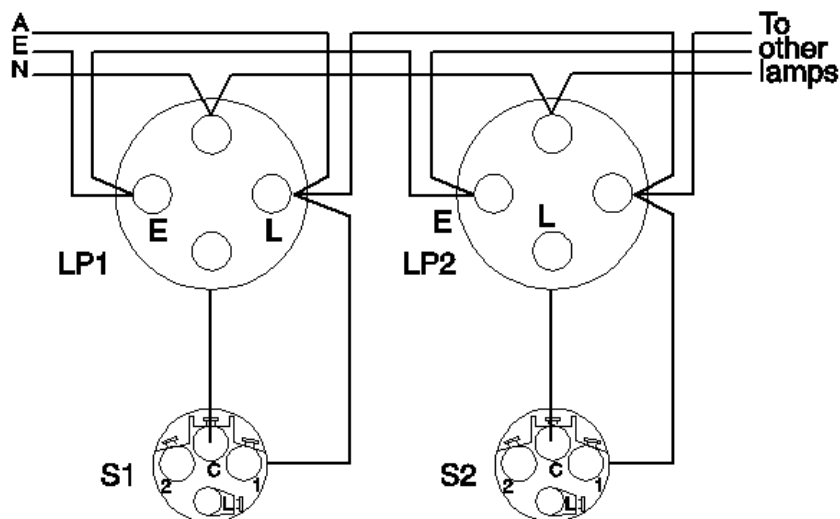

Fig. PF-4-1-32– Simple Wiring Diagram
- **Figure PF-4-1-32** is an example of a simple wiring diagram. The circuit consists of two lighting points independently controlled by separate switches.